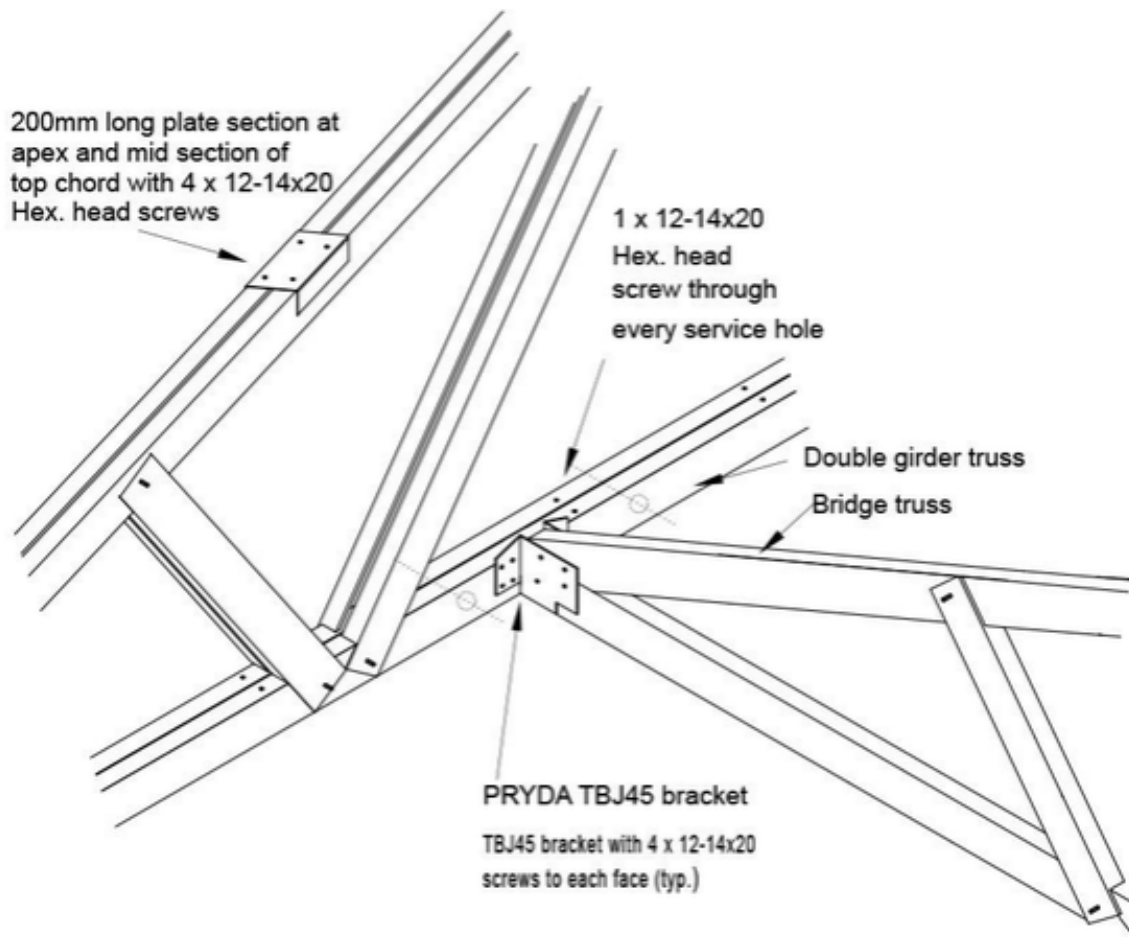

Figure 7.59: Bridge truss to girder truss connection using Pryda TBJ45 bracket
Install the bridge trusses to the external wall and girder truss as shown in **Figure 7.59**.
Step 2: Install 1x12-14x20 Hex Head screw through **EVERY** service hole provided on the bottom chord to connect the two trusses together as shown in **Figure 7.59**.